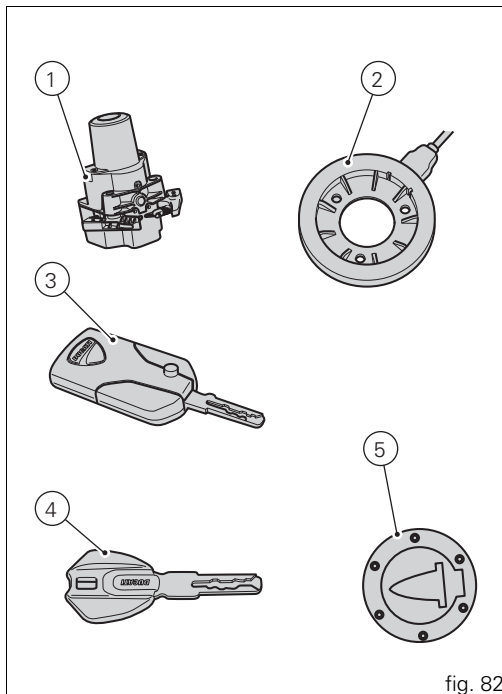

fig. 82
Key-On is done using the button (6) on the handlebar on the right switch or using the emergency button (7) on the Hands free lock (1, fig. 82).
Key-Off is done using the button (6) on the handlebar on the right switch or using the button (7) on the Hands free lock (1, fig. 82).
Key-On can only occur in the presence of one of the two keys (3, fig. 82) or (4, fig. 82) or using the pin code.
Key-Off can also occur without a key (3, fig. 82) or (4, fig. 82).
When the battery is discharged, the active key (3, fig. 82) acts like a passive key (4, fig. 82). The instrument panel displays the discharged battery status.
A Key-On can be performed by pressing the red key (6) on the handlebar in the HANDS FREE ON/OFF position and in the presence of the active key (3, fig. 82).
The active key (3, fig. 82) has a range of approx. 1.5 m, therefore it must be located within this range.
Key-Off can be performed by pressing the red key (6) on the handlebar in the HANDS FREE ON/OFF position. It can be done also without the key (3, fig. 82) only if the motorcycle speed is equal to zero.
Key-On can be performed by pressing the button (7) on the Hands free lock (1, fig. 82) and with the presence of the active key (3, fig. 82).
Key-Off can be performed by pressing the button (7) on the Hands free lock (1, fig. 82), also without the key (3, fig. 82).
A Key-On can be performed by pressing the red button (6) on the handlebar in the HANDS FREE ON/OFF position and in the presence of the passive key (4, fig. 82).
The passive key (4, fig. 82) has a range of a few cm, therefore the key (4, fig. 82) must be positioned near the antenna (2). Remove the seat (see "Removal of the seat" on page 139) to access the antenna (2).
Key-Off can be performed by pressing the red button (6) on the handlebar in the HANDS FREE ON/OFF position. It can be done also without the key (4, fig. 82) only if the motorcycle speed is equal to zero.
Key-On can be performed by pressing the button (7) on the Hands free lock and with the presence of the passive key (4, fig. 82).
Note The passive key (4, fig. 82) has a range of a few cm, therefore the key (4, fig. 82) must be positioned near the antenna (2). Remove the seat (see "Removal of the seat" on page 139) to access the antenna (2).
Key-Off can be performed by pressing the button (7) on the Hands free lock (1, fig. 82), also without the key (4, fig. 82).
Key-On can be performed by pressing the button (7) on the hands free lock (1, fig. 82) without the presence of the keys (3, fig. 82) and (4, fig. 82) and entering the pin code on the dashboard.